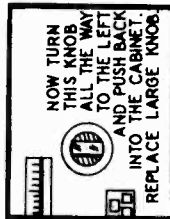

FIG. 11
12. Turn the knob to the LEFT until you reach a definite stop. A firm pressure must be applied otherwise you will not lock all the internal controls (see fig. 11). The knob will turn rather stiffly and the dial pointer will travel over to the right side of the scale. Continue to turn the knob to the left even after the pointer reaches the end of the dial scale. APPLY A FIRM PRESSURE UNTIL THE KNOB REACHES A DEFINITE STOP.
13. Push the small station selector knob back into the cabinet again and put on the large knob that was originally pulled off of this shaft at the start of operations (see fig. 11).